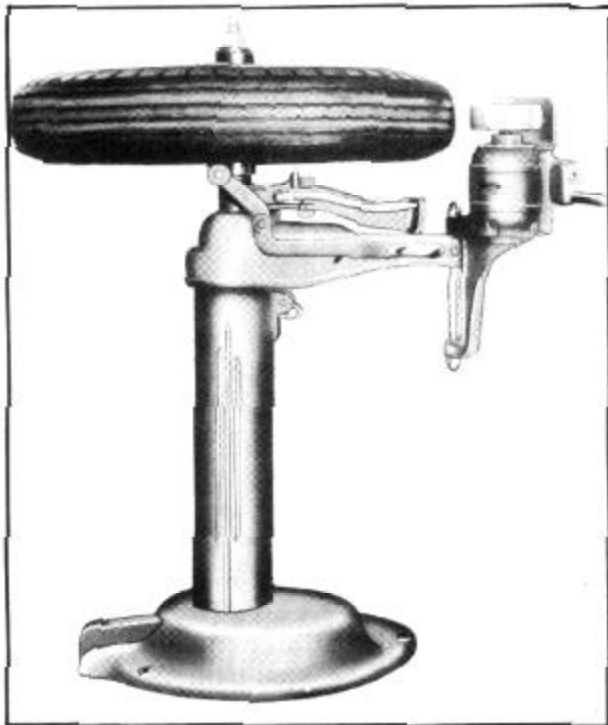

Figure 7 - Static Wheel Balance on KMO 55-J
Weights must be added to (1) and (4), Figure 5, to equal the weight in sections (2) and (3), and in Figure 7 the weight is evenly distributed about both the axis of rotation and the center line of the wheel. This wheel is statically and dynamically balanced.